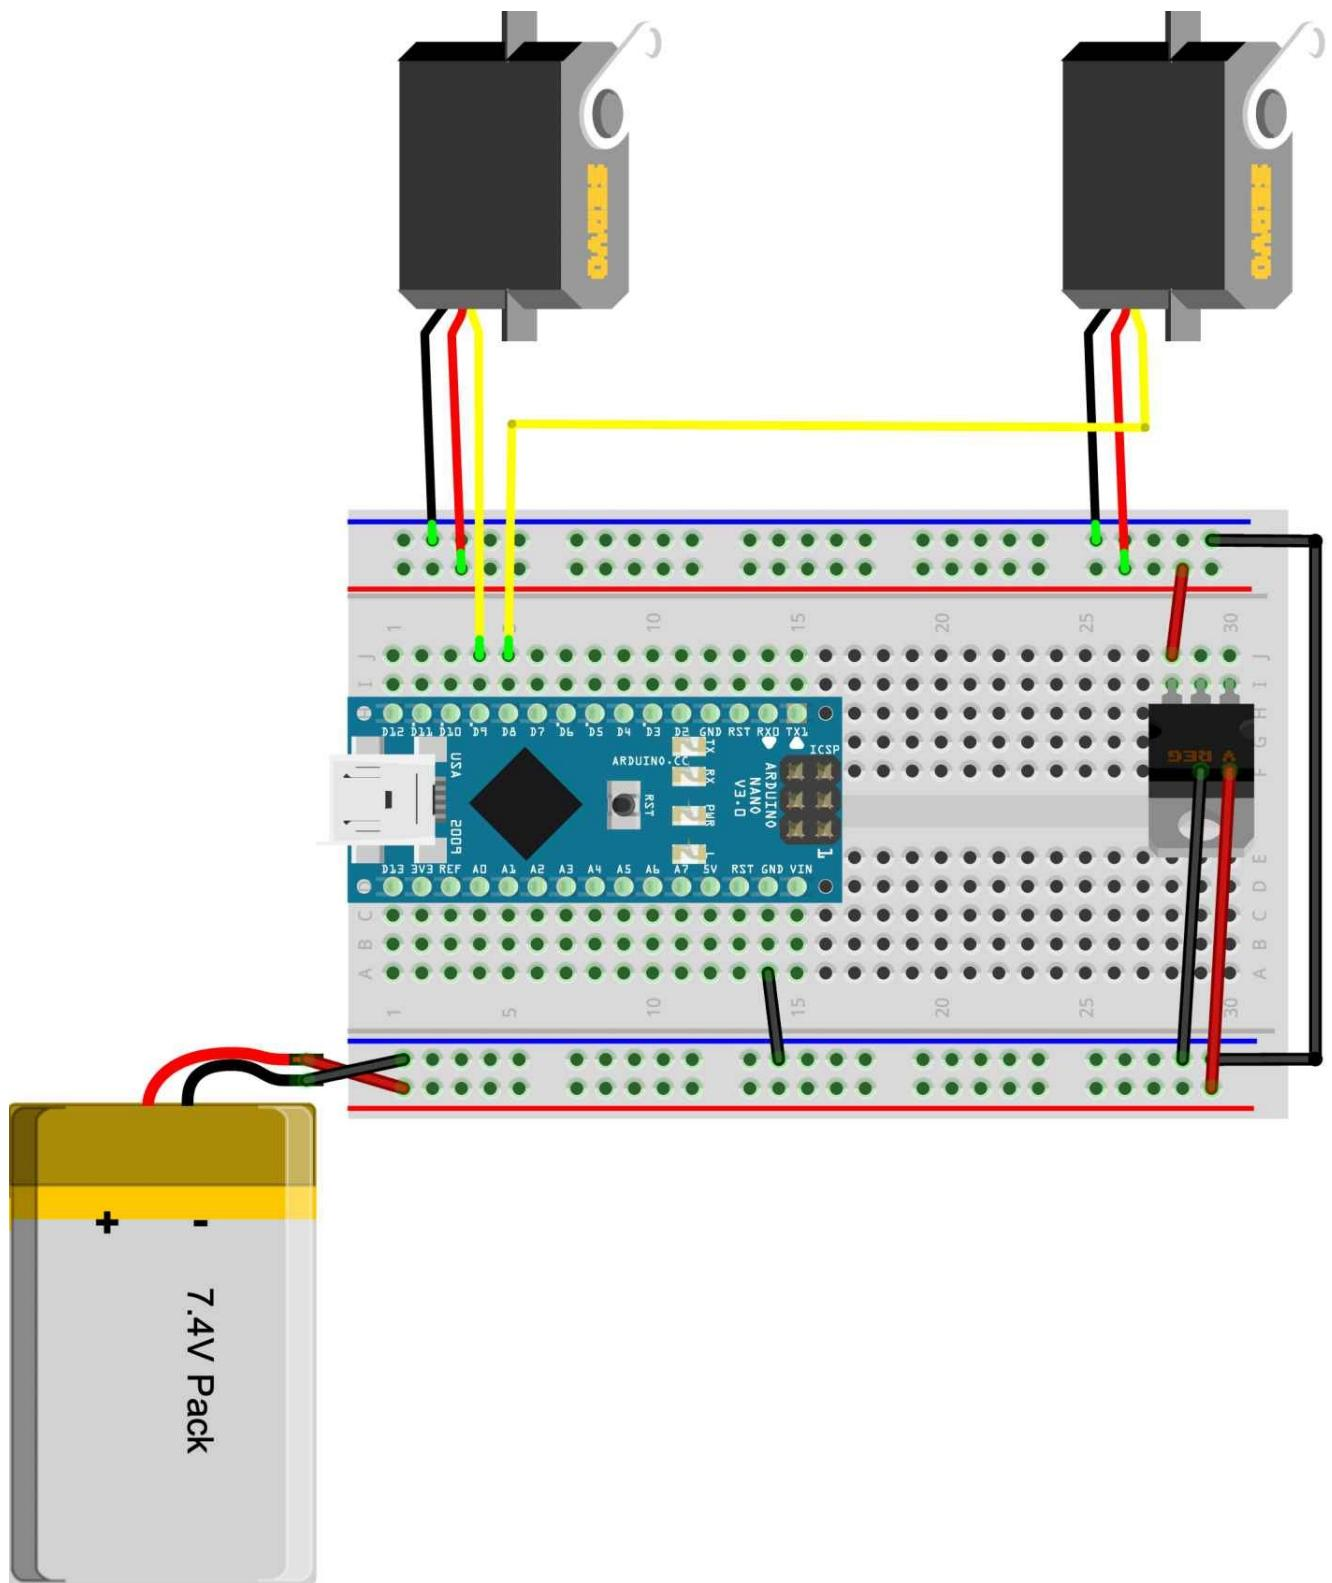

Figure 1-5. Battery mounted to the chassis
4. Mount the battery between the wheels as in Figure 1-5. Again, you can use a cable tie, but double-sided tape or a bit of Blu-Tack works well here, too, if you want to recharge easily. Trim the cable tie excess off as you go or it gets a little hard to mount everything.